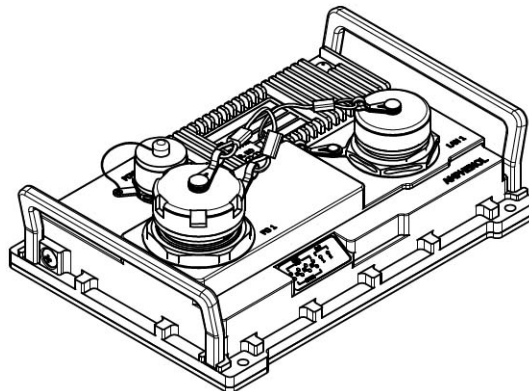

Figure 1 : RESGMC 1M 100 RJF 1CTOS OD DC
1. Prepare the cable for termination process and slide onto the cable the items in the order shown on figure 1.